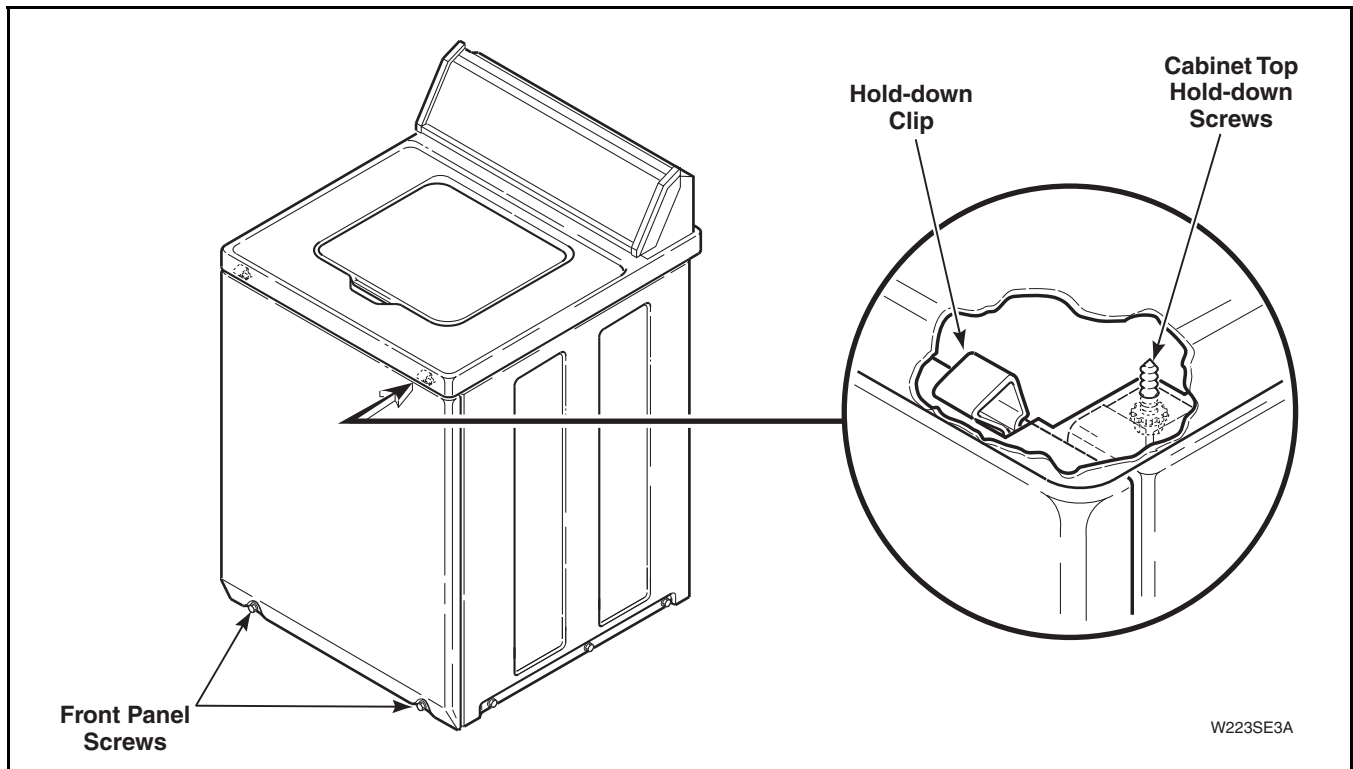

Figure 25
- Remove two screws from bottom edge of front panel. Refer to *Figure 25*.
- a. Remove two screws from bottom edge of front panel. Refer to *Figure 25*.
- b. Pull bottom of panel away from washer until hold-down clips (located on top flange of panel) disengage from slots in cabinet top. Refer to *Figure 25*.
- c. Remove two cabinet top hold-down screws. Refer to *Figure 25*.
- Pull bottom of panel away from washer until hold-down clips (located on top flange of panel) disengage from slots in cabinet top. Refer to *Figure 25*.
- Remove two cabinet top hold-down screws. Refer to *Figure 25*.